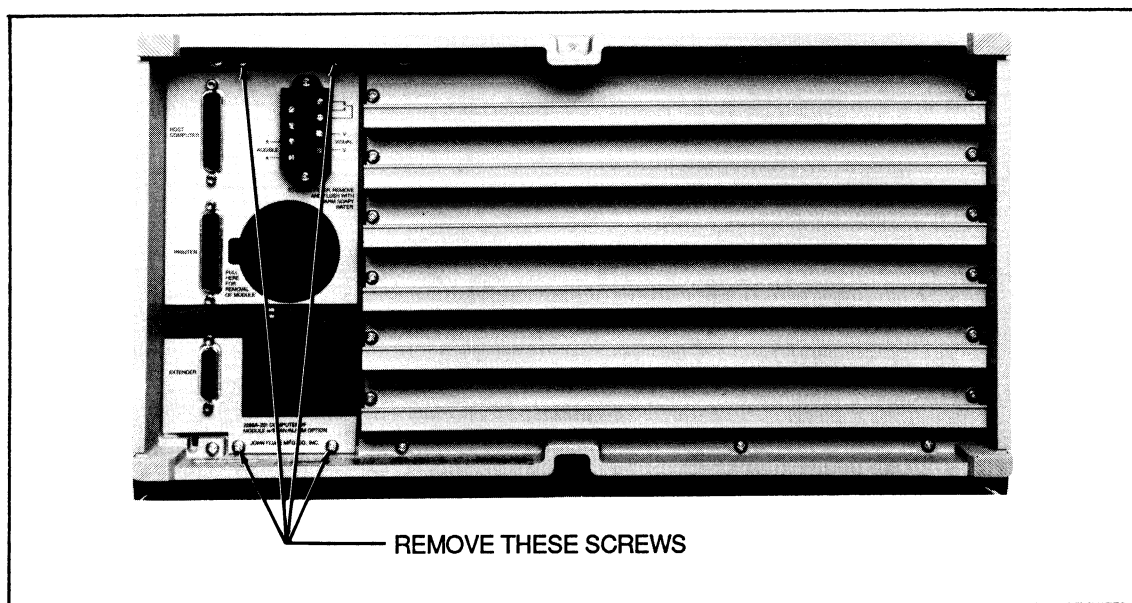

Figure 4-1. Removing The Attaching Screws
3. Remove the four Phillips-head screws indicated in Figure 4-1.